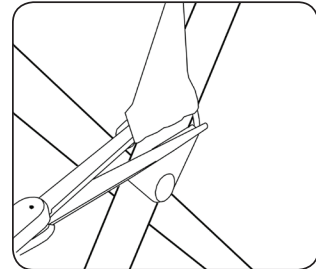

Fig. 1
1. Locate the end of the strap where the ISKM legs cross. Using a pair of scissors, cut through the loop and remove the entire strap from the unit (Fig. 1) by un-threading it from the strap holder on the mesh.